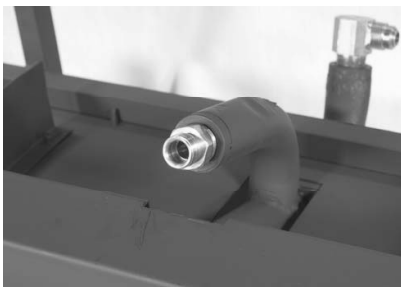

Figure 4
4. Install the compression fitting into the ember burner gas feed (where the plug was removed in step 2). To secure the fitting, rotate it clockwise with an adjustable wrench. See Figure 4.